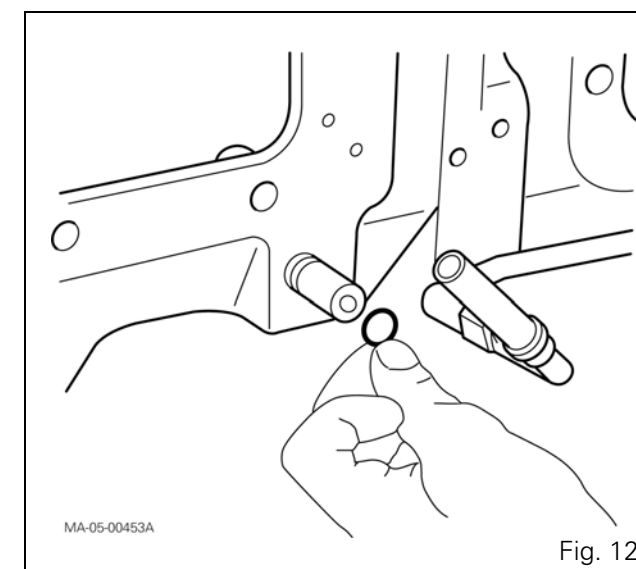

Fig. 12
20. Refit the control rod and pull it as far to the right as possible. Fit a new lubricated "O" ring (Fig. 12).